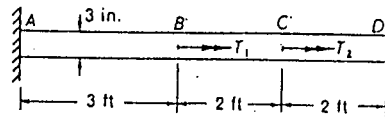

Fig. P6.97
6.97. An aluminum shaft is rigidly restrained at each end and loaded by couples as shown in Fig. P6.97. If $T_1 = 12,000$ in.-lb and $T_2 = 10,000$ in.-lb, compute the maximum shear stress in each section and the rotations of cross sections at B and C .